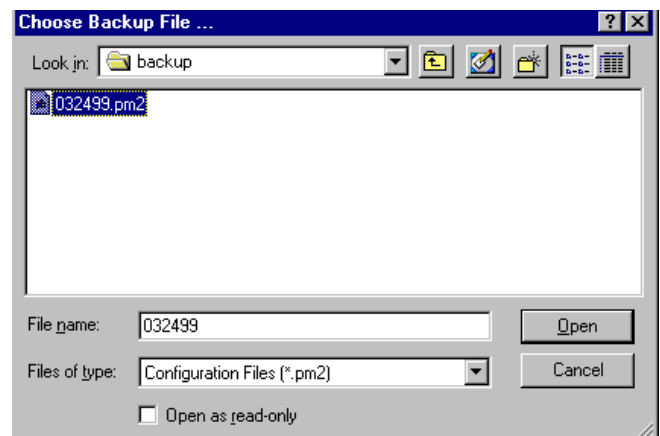

Fig. 13.15
5. After the upload button is pressed, the Choose Backup File dialog box appears. See Fig. 13.15. Double-click on or select and press the Open button for the backup file you want to restore.